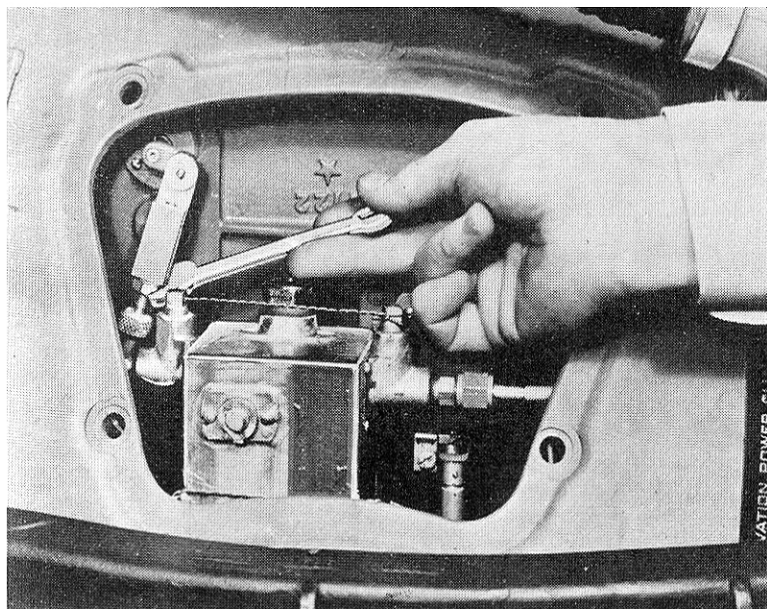

FIGURE 29—Azimuth Creep Adjustment
3. Re-engage the azimuth power clutch, turn on the motor, and check the adjustment by running the turret back and forth several times. Remove the remaining creep (if any) by turning the knurled knob on the azimuth control shaft in the same direction that the turret is creeping. Tighten the locknut (see Figure 29).